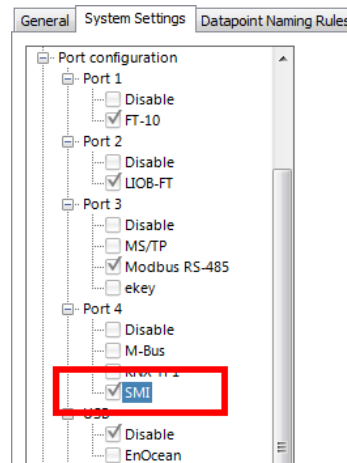

Figure 174: Enabling SMI in the Project Settings Dialog.
2. In the **System Settings** tab enable the SMI protocol on the EXT port, as shown in Figure 174. When using an LSMI-804 activate the SMI protocol on the USB port.